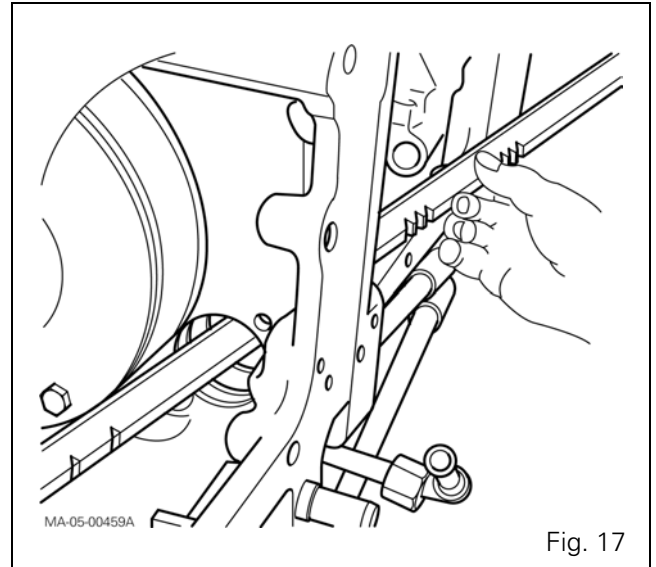

Fig. 17
61. If necessary, disassemble the stop (18).
62. Take the selector rail out through the selector cover aperture by passing it through the Hare / Tortoise cylinder bore (Fig. 17).
64. Refit the selector rail through the selector cover aperture by passing it through the Hare / Tortoise cylinder bore (Fig. 17). Refit the forks.